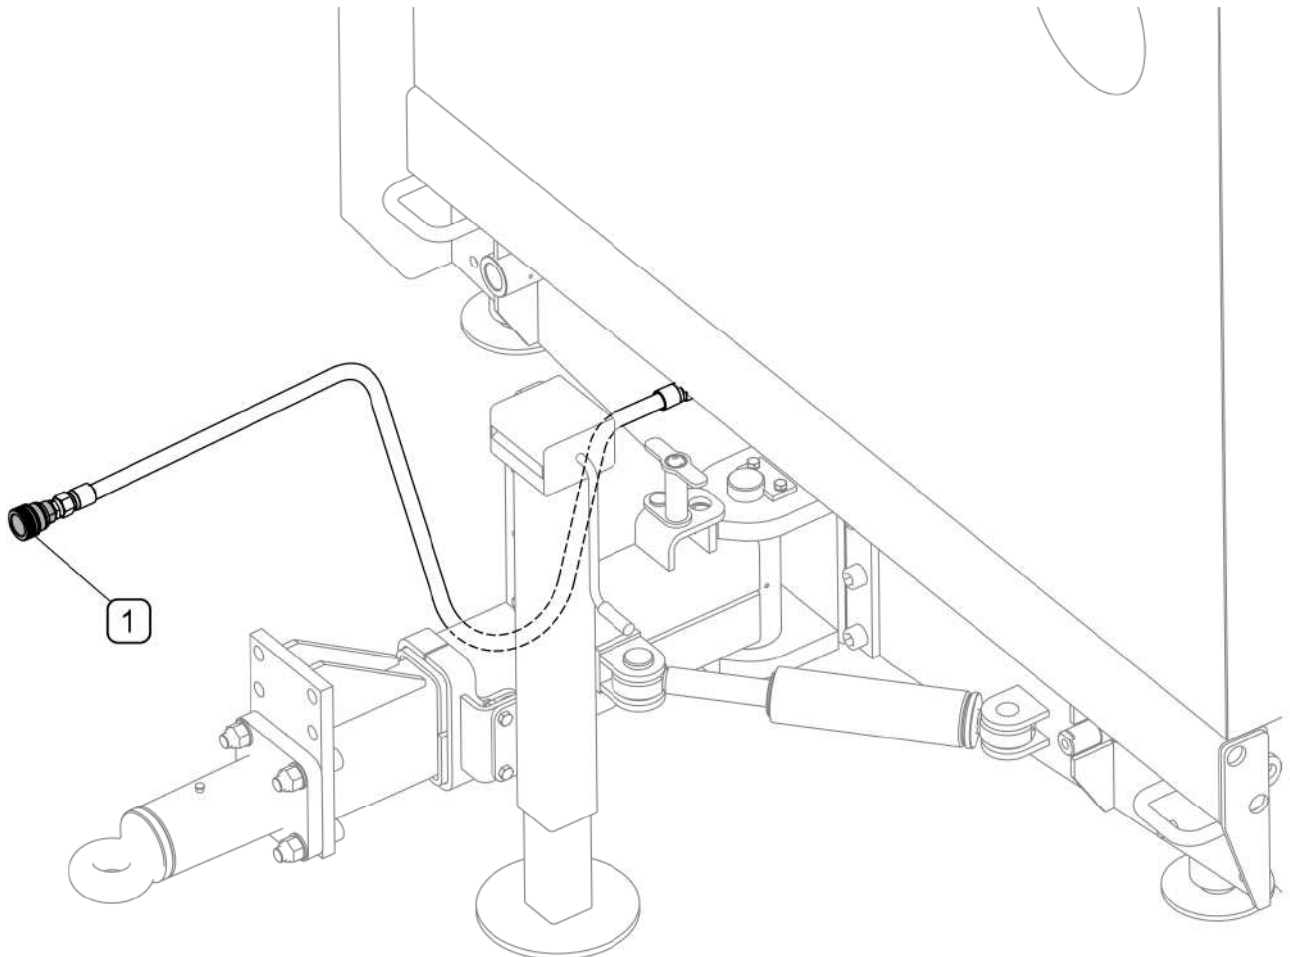

FIG. 4.6 Connecting hydraulic brake system (option)
If the sweeper is equipped with hydraulic brake system, (FIG. 4.6) connect hydraulic quick coupler (1) to a suitable socket in the carrying vehicle.